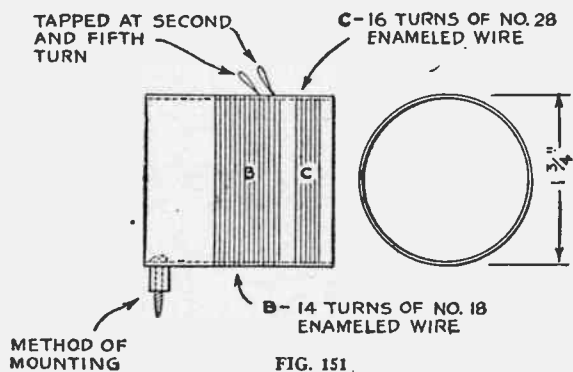

FIG. 151.
a three-inch form tapped at the second and fifth turns (see Fig. 151).
C.—Coupling coil, mounted on same form as coil B and one eighth inch from it, sixteen turns of No. 28 enameled or cotton-covered wire (see Fig. 151).